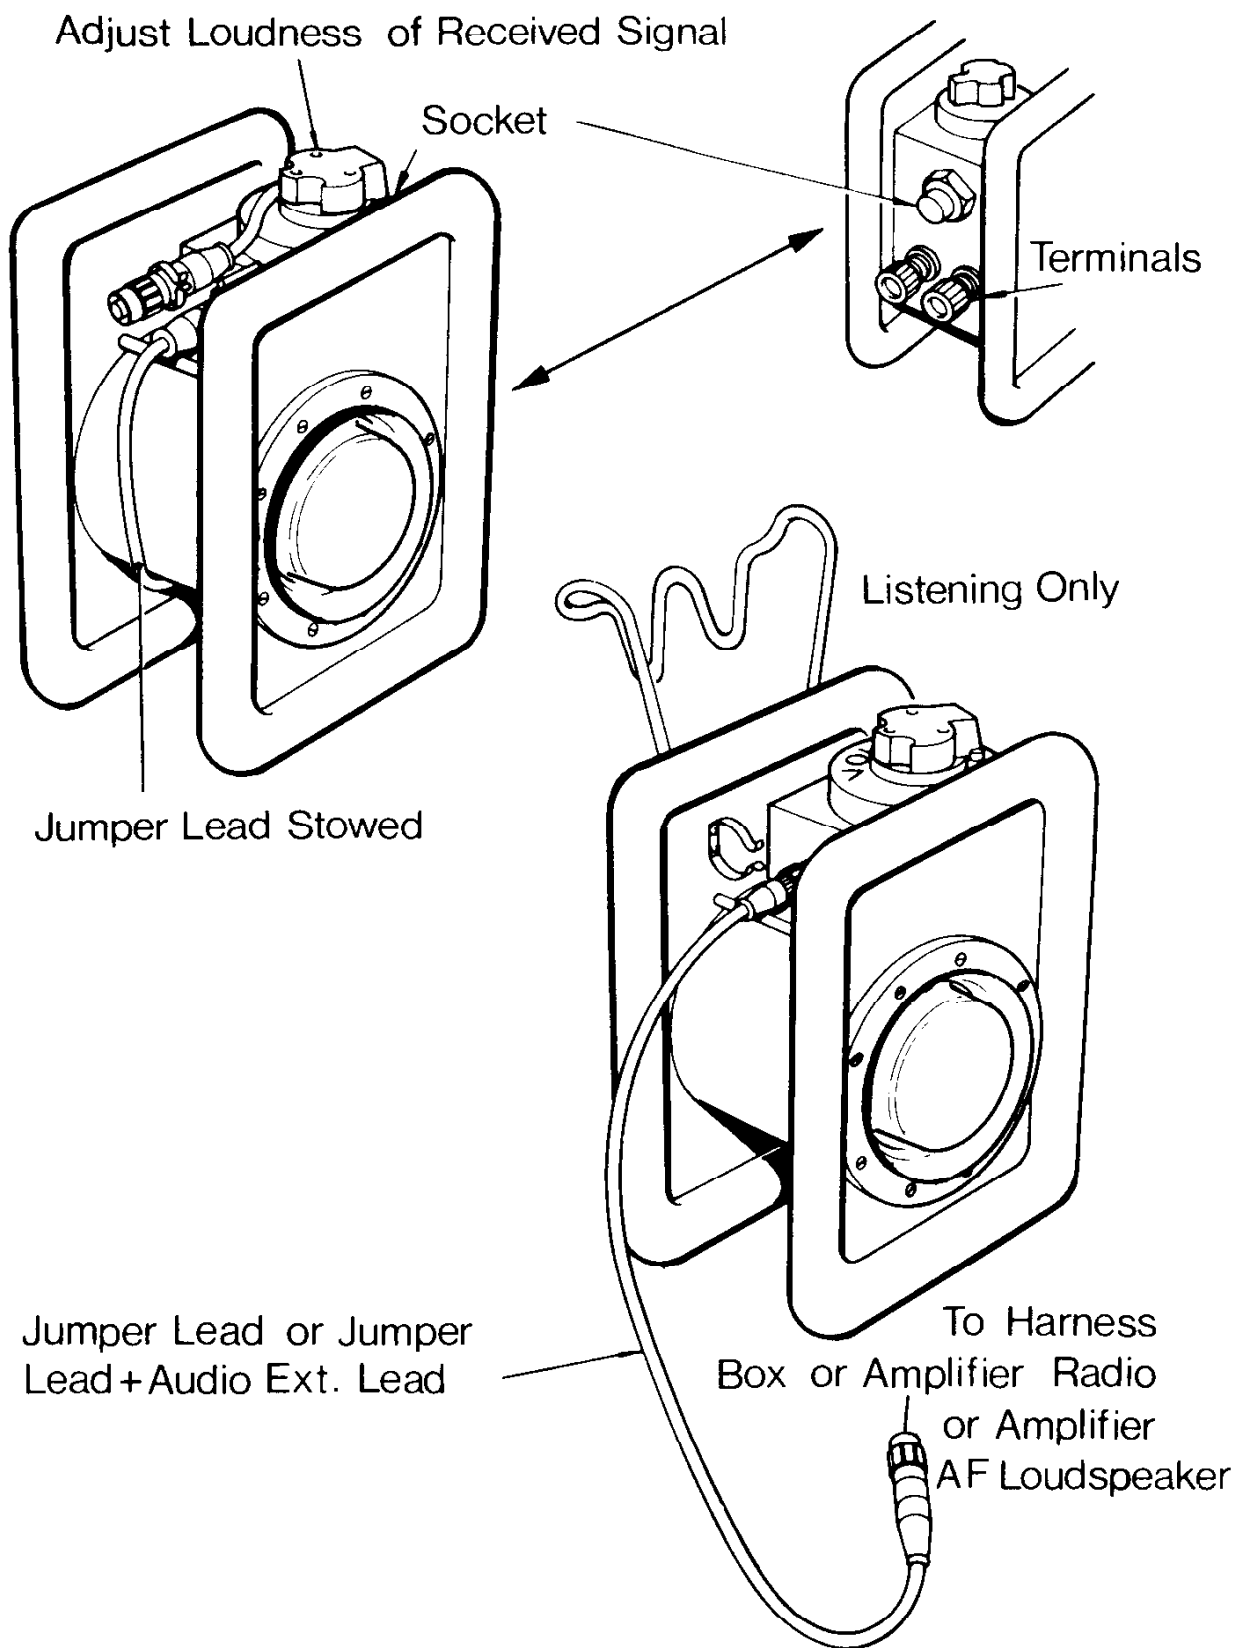

Fig 9.—Loudspeaker Free Standing for Monitoring
a. For monitoring (see Fig 9).